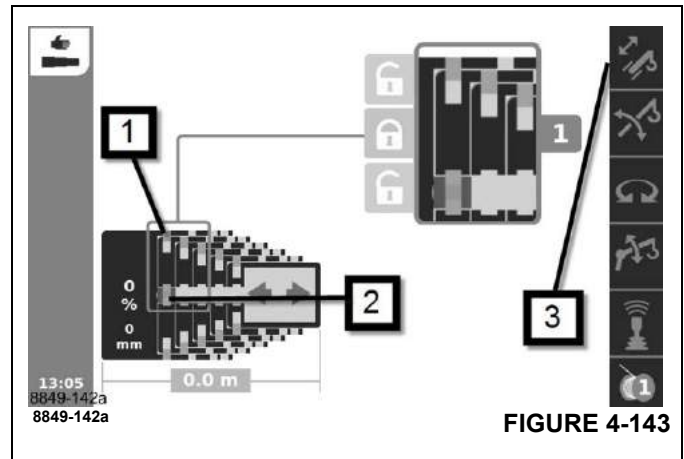

FIGURE 4-143
- Telescoping mechanism ON – symbol (3), (Figure 4-143) green.
- Telescopic section locked – symbol (1) green.
- Telescoping cylinder locked – symbol (2) green.